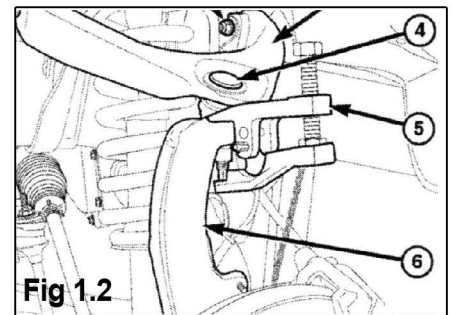

Fig 1.2
9. **NOTICE!** Wheel hub and knuckle assembly must be supported before separating upper ball joint! Failure to support assembly can result in ABS cable, brake hose, drive axle boot and or CV joint damage. Remove upper ball joint nut, separate upper ball joint (#4 Fig. 1.2) from knuckle (#6 Fig 1.2) using separator tool 9306 (#5 Fig 1.2). **Caution:** Do Not Damage joint seals.